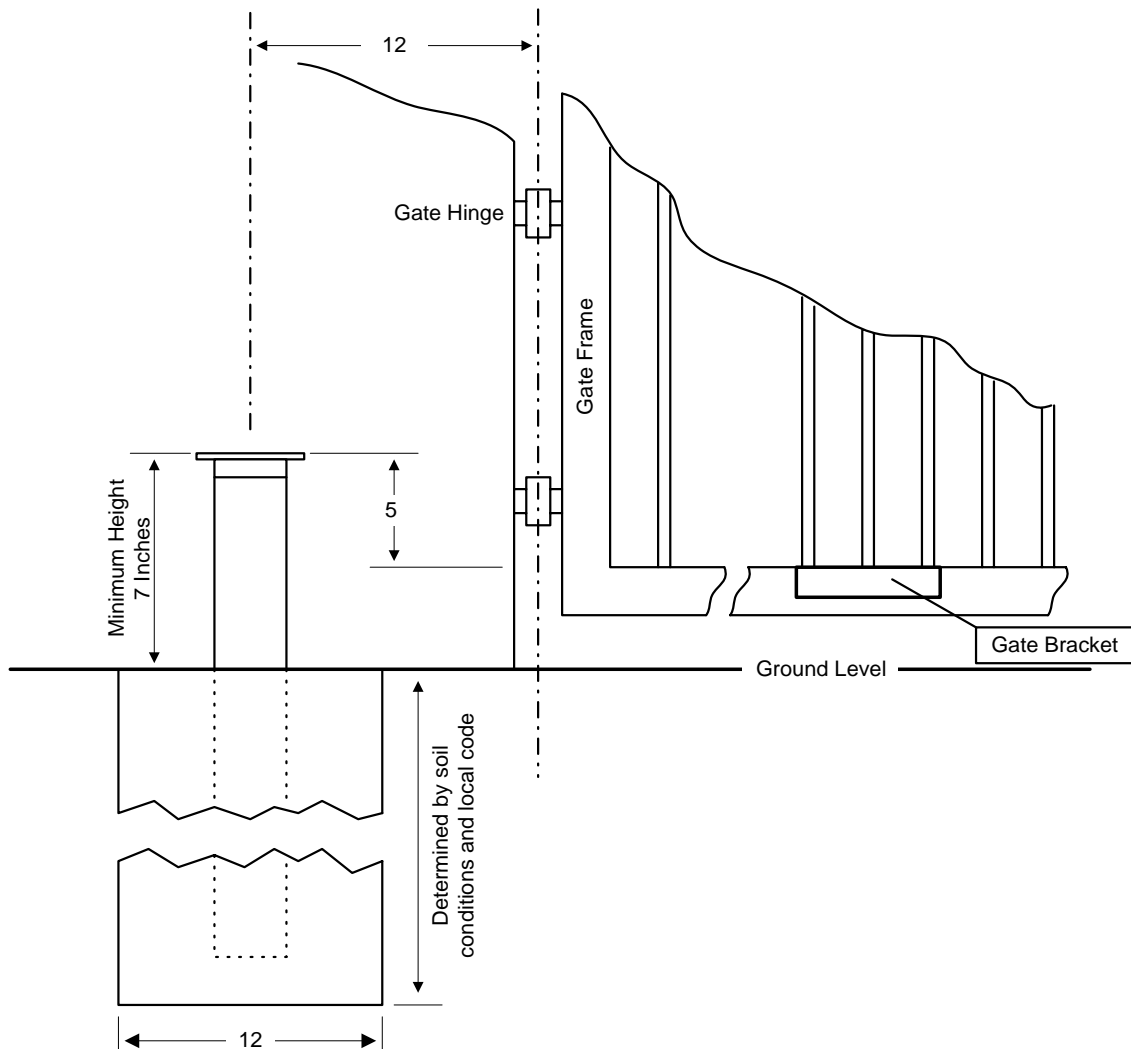
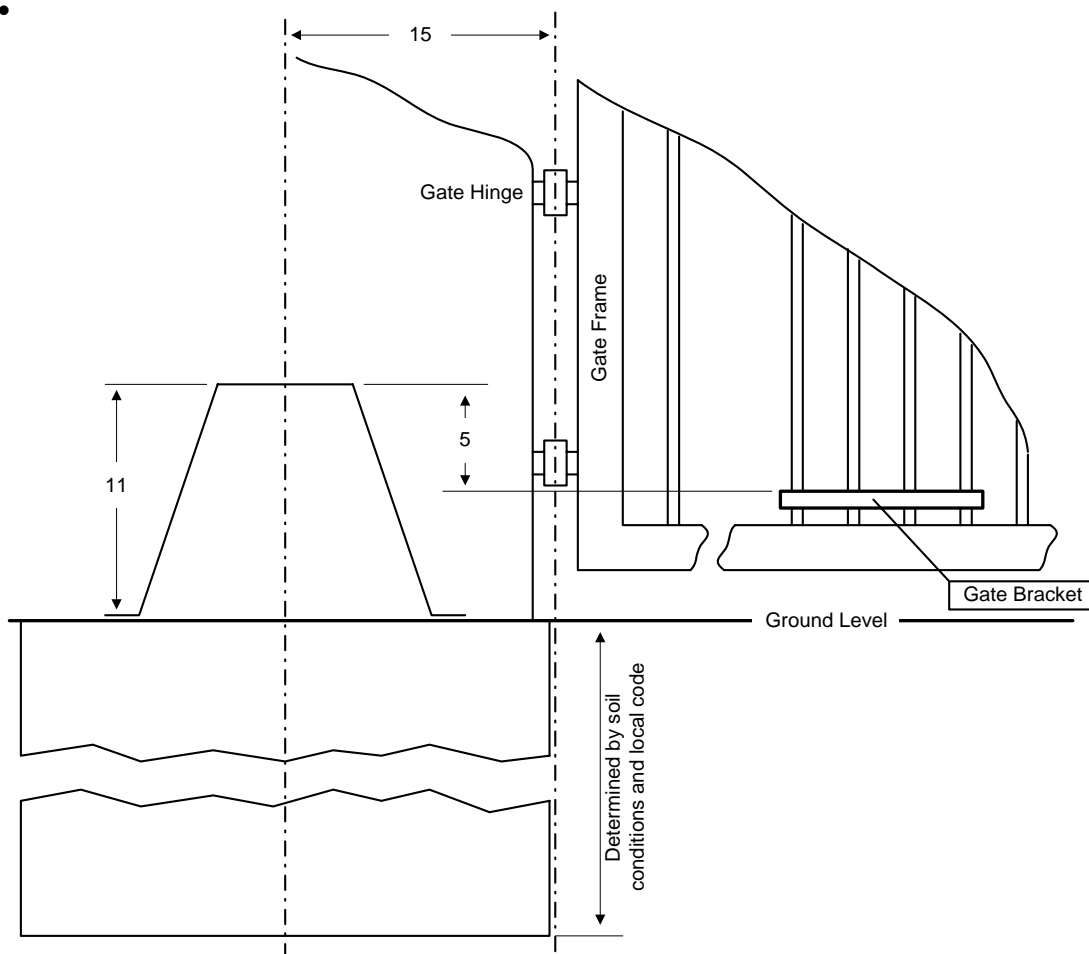
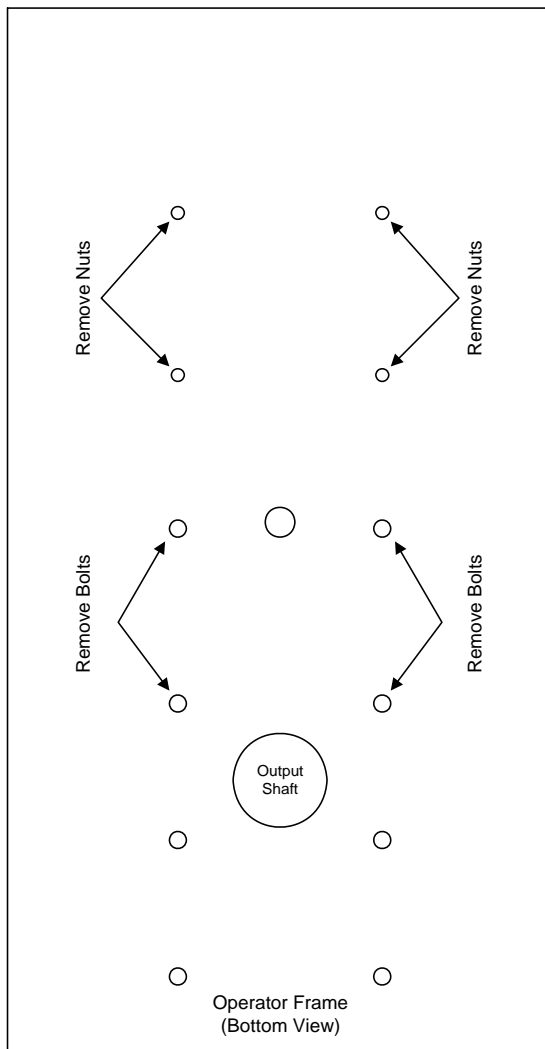

Figure 4
Figure 7
Figure 12
5. Determine the height of the assembly required for your installation. Refer to Figure 4.
- The concrete pad is sized so that there is a minimum of four (4) inches of concrete from the outside edge of the mounting pipes.
- The height requirement is determined by adjusting the mounting plate / pipe assembly so that the top of the mounting plate is 5 inches above the top of the gate rail (Figure 4). This will allow you to mount the gate bracket onto the bottom rail of the gate and will keep the crank and connecting arms level (see page 8, Figure 12).
- The concrete pad is sized so that there is a minimum of four (4) inches of concrete around the perimeter of the pad.
- Attach the gate bracket to the gate so that the top of the mounting plate is 5 inches above the top of the gate bracket as shown in Figure 7. This will keep the crank and connecting arms level (see page 8, Figure 12).
- The position of the gate bracket on the gate is directly related to the height of the concrete pad above ground level. If allowed by local codes, the top of the concrete pad can be flush with ground level as shown in Figure 7, which will allow the gate bracket to be lower on the gate.
1. Place the operator on its side and remove 4 bolts and 4 nuts from the bottom frame (Figure 12).